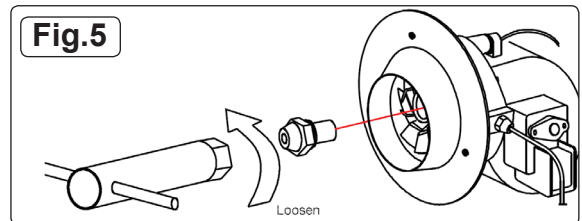

Fig.5
6.3.1. To clean dirt from nozzle, blow compressed air through nozzle front. It may be necessary to soak the nozzle in clean kerosene/paraffin/diesel to help loosen any particles (Fig.5).